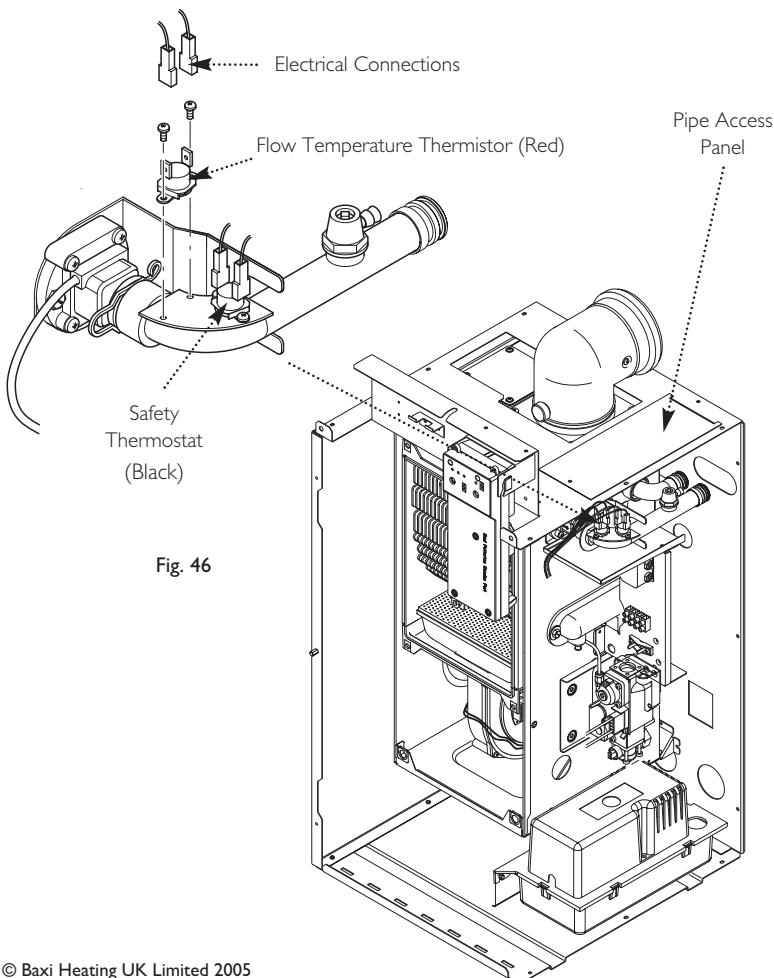

Fig. 46
The thermistor, safety thermostat, interface PCB and the flow switch can be accessed after removal of the pipe access panel (Fig. 46).
13.2 Flow Temperature Thermistor and Safety Thermostat (Fig. 46)